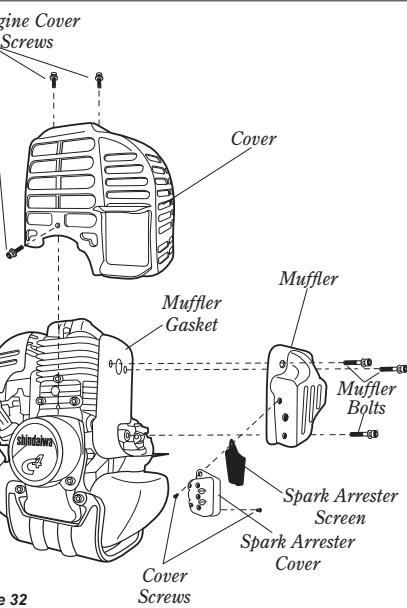

Figure 32
- With a 3 mm hex wrench remove the 3 engine cover screws and the engine cover. See Figure 32.
- With a 4 mm hex wrench remove the 3 muffler bolts and the muffler. See Figure 32.
- With a small flat bladed screwdriver remove the 2 screws holding the spark arrester screen and cover to the muffler. See Figure 32.